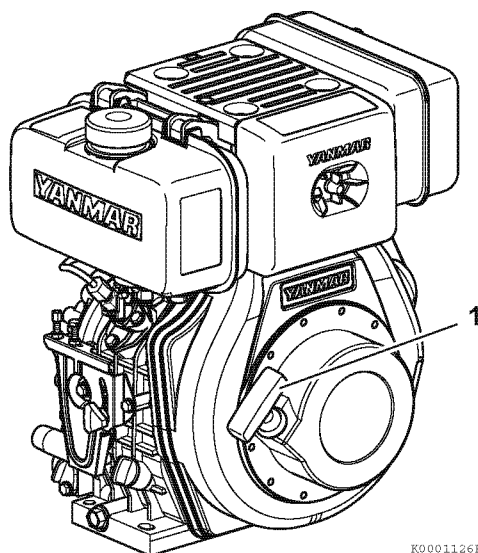

Figure 6
1. Grasp the recoil starter handle (1, **Figure 6**).
5. Grasp the recoil starter handle (1, **Figure 6**).